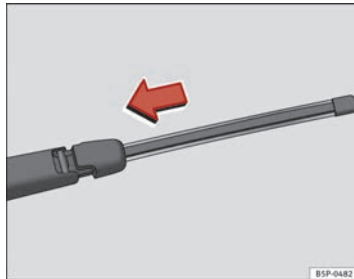

Fig. 131 Fitting the rear window wiper blade
- Place the blade as shown in the ⇒ Fig. 131 and slide the adapter along until it engages.